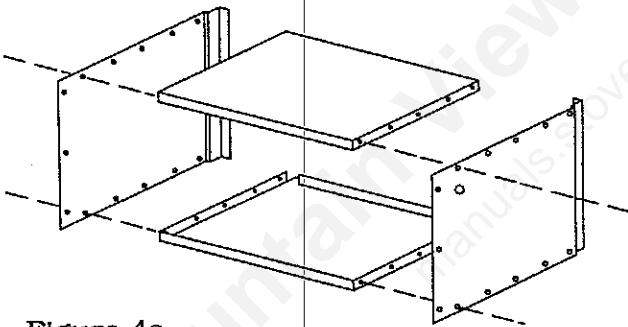

Figure 4a - ASSEMBLE FILTER BOX USING THE SCREWS PROVIDED. NOTE: THE SIDE WITH THE 1" HOLE IN THE CORNER MUST BE MOUNTED ON THE RIGHT SIDE OF THE UNIT.
- 6.) Assemble Filter box as shown in Figure 4a, page 5. Set filter box to rear of furnace, cover rear distribution blower. Raise filter box off floor approximately 4". Make sure filter box is pressed tightly to back of furnace. Use 6 #8 self-tapping screws to attach filter box to the back of the furnace. (See Figure 4b). Run blower motor wires through electrical conduit to 3-speed switch and connect wires. (See Wiring diagram Page 6). **NOTE:** Filter not included with unit; filter size: 18"x25"x1".